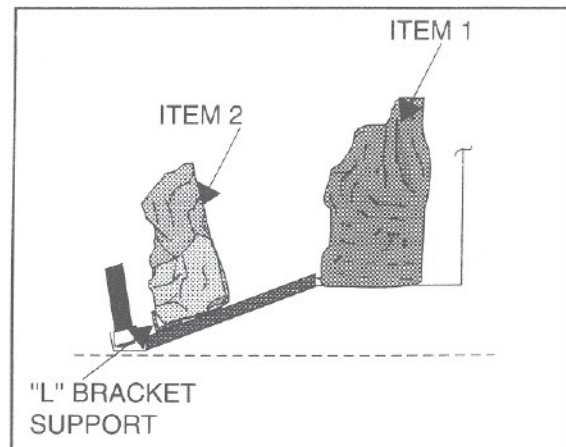
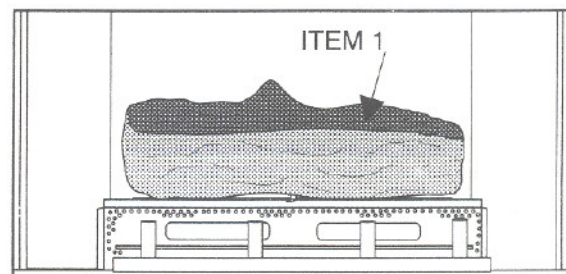

Figure 42
Figure 43
2. See **Figure 43**. Place the Back Log (Item 1) on the Back Log Support ensuring that the log is up against the back of the ignitor/pilot assembly. The flat surface of the log will sit on the Back Log Support with the Split Side of the log facing front. (See **Figure 42**.)